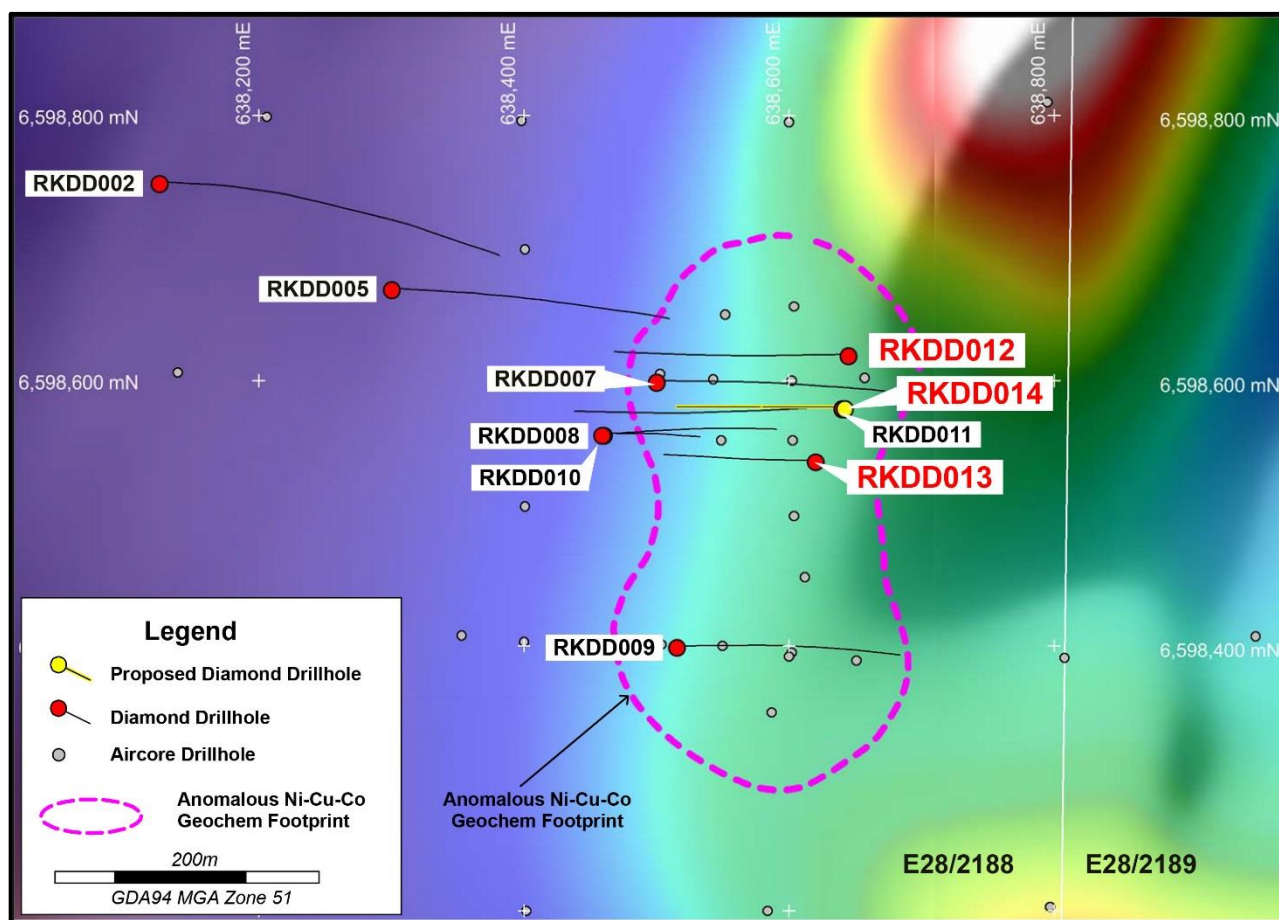
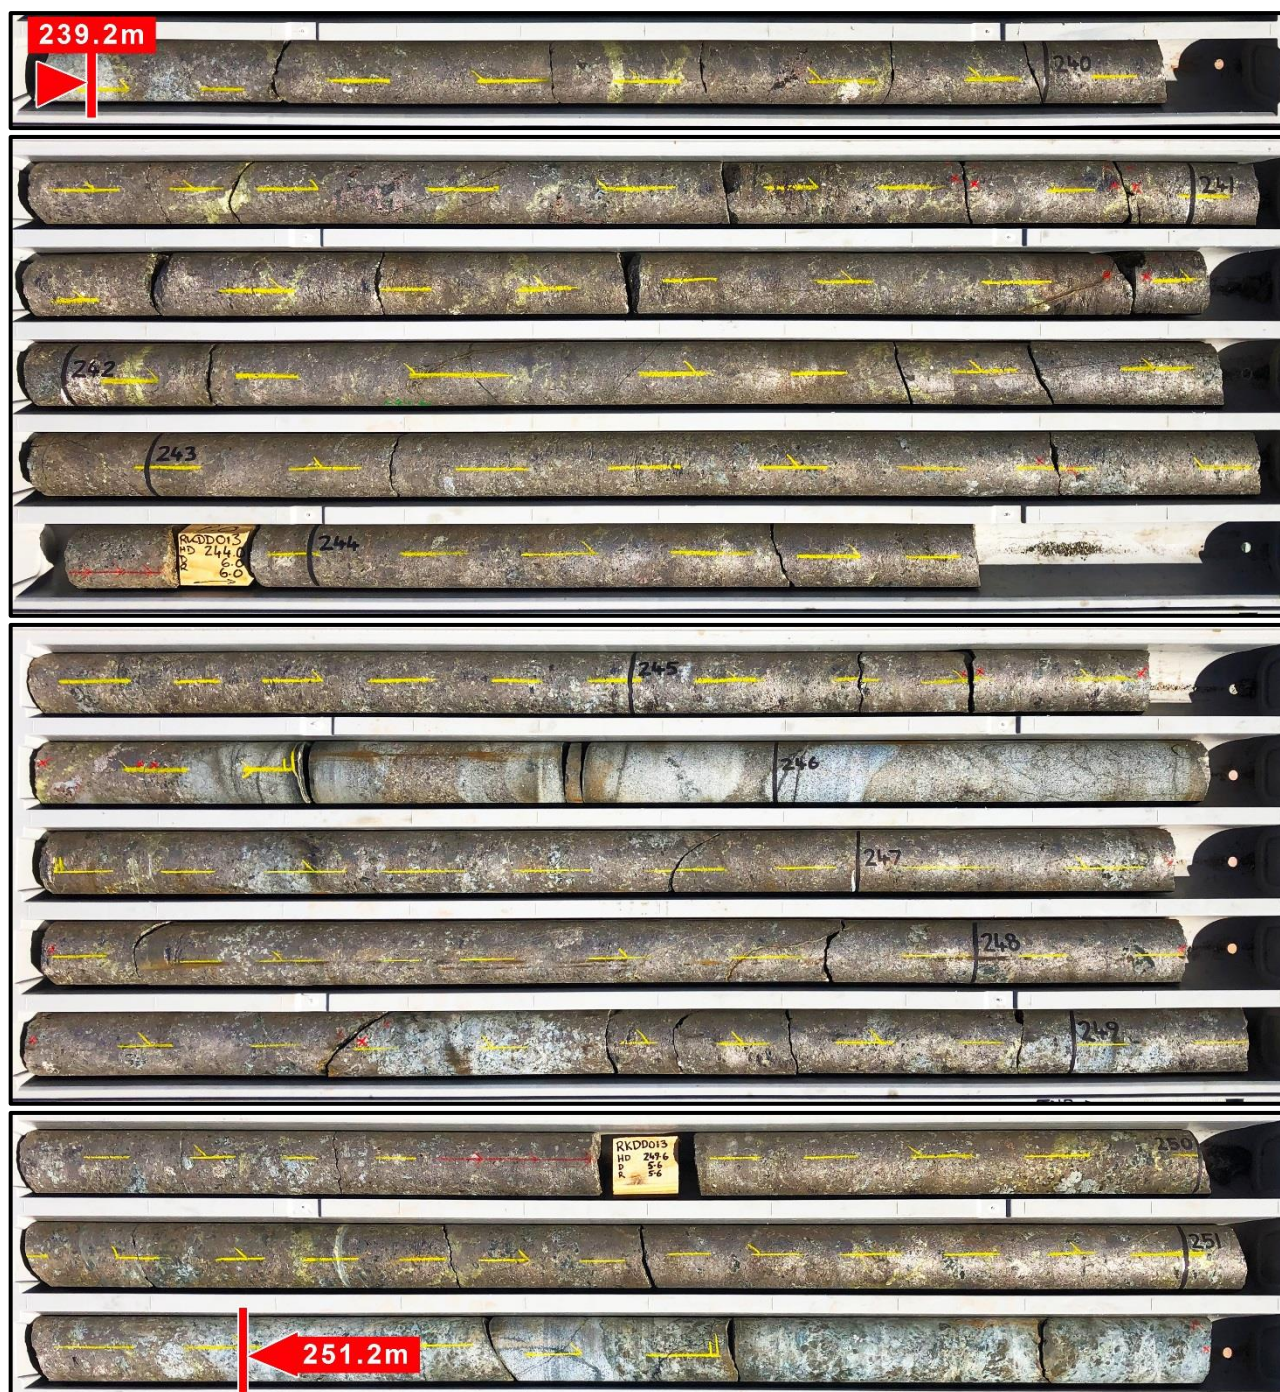

Figure 1: Mawson Diamond Drillhole Locations on Aeromagnetics
Figure 2: Massive Sulphide in RKDD013 (239.2m to 251.2m (NQ2 core))
Diamond drillhole RKDD012 has been completed and RKDD013 is nearing completion at 290m depth at Mawson (see Figure 1 and Table 1). The drillholes were testing a combination of downhole electromagnetic (DHTEM) conductors and interpreted extensions to sulphide mineralisation from previous drillholes.
RKDD013 was designed to test a strong 50,000-60,000S DHTM conductor identified in RKDD010 and also test for extensions to the sulphide mineralisation intersected in drillhole RKDD008 (see Figure 1). The hole intersected a 12m interval of massive nickel-copper sulphide mineralisation from 239.2m and a further 1.5m from 257.5m downhole (see Figures 2 & 3).
RKDD012 was drilled to test the northern extension of mineralisation intersected in RKDD007 (see Figure 1). The hole intersected a broad (42.7m) interval of disseminated sulphide (pyrrhotite-chalcopyrite-pentlandite) associated with olivine gabbro-norite and ultramafic from 103.2m downhole. This interval correlates with the upper halo of disseminated sulphide intersected in RKDD007, however the higher grade interval in RKDD007 was not intersected at depth. Structural logging of this hole indicates that stratigraphy has changed strike sharply toward the northeast and further assessment of the geology and geophysics in this area is required to fully evaluate the potential.
- Diamond drilling to continue with the collaring of RKDD014 testing geological and DHTEM geophysical targets (see Figure 1).